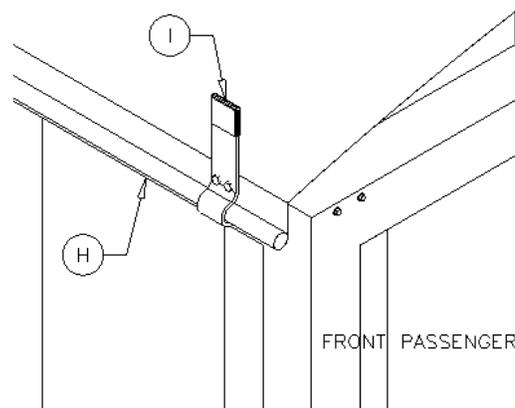

Figure 11
(See Figure 11)
Procedure: Raise the roll-tube and place it on the top passenger side of the bows and end caps making sure that the roll tube spline is at the rear of the trailer. Reverse rolls would be placed on the driver side. Roll out the tarp to the driver side (passenger side for reverse roll). Position the tarp so that the material sits 2 inches in from the face of the front end cap. Smoothen the tarp out and apply as much tension to it as possible by pulling down on the loose end of the tarp. The pocket holding the quick release pipe (H) should hang down the side of the trailer approximately 3-1/2 inches. The quick release pipe (1-1/8" pipe in the tarps pocket) will be held against the side of the trailer by the round tarp stops (I) shown in Figure 11. Make sure the tarp material is 2 inches in from the face of the front end cap. Mount the front round tarp stop 4 inches in from the front edge of the tarp material. Drill a 5/16" hole through the predrilled holes in the tarp stop and into the trailer. Secure the stops using the 3/8"x1-1/4" self-threading bolts provided. Next mount the rear tarp stop 4 inches in from the rear edge of the tarp material, ensure the tarp material is pulled tight from end to end. The remaining round tarp stops are to be centered according to the length of the trailer. Make sure that the quick release pipe (H) is positioned parallel with the trailer lip.